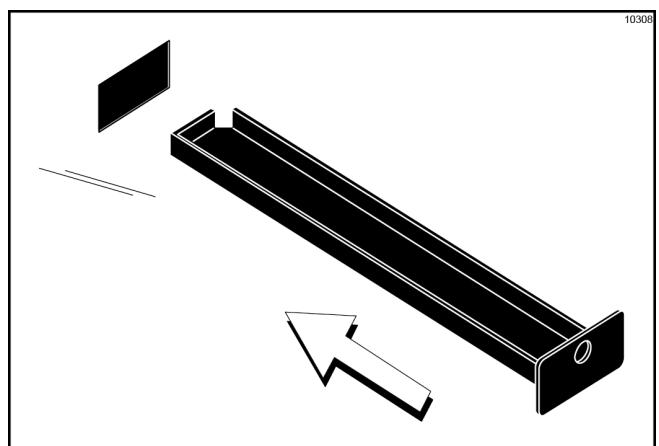

Figure-66
12. Remove, clean, and re-install the two notched drip pans in the left and right side panels. (See Figure-66.)